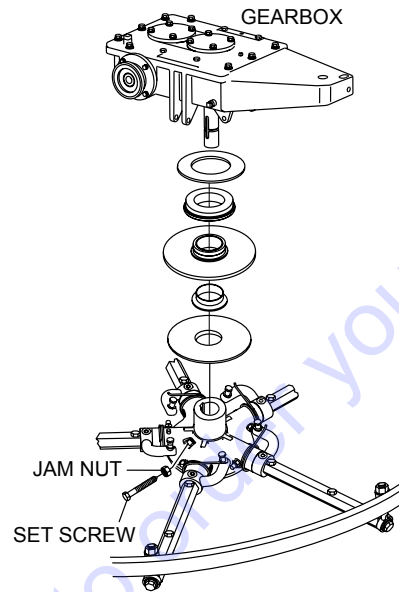

**Figure 34. Correct Spider Plate Alignment**
2. Pitch the blades as flat as possible. The adjustment bolts should all barely make contact with the lower wear plate on the spider. If one is not making contact, adjustment will be necessary (Figure 34).
Figure 34 illustrates the “correct alignment” for a spider plate (as shipped from the factory).